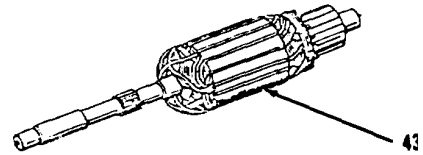

Figure 4-82.
2. Remove loose particles from armature (43, Figure 4-82) with compressed air and wipe with a clean cloth dampened with dry cleaning solvent. Clean commutator lightly with No. 00 Grit sandpaper and remove all traces of dust with low pressure compressed air.